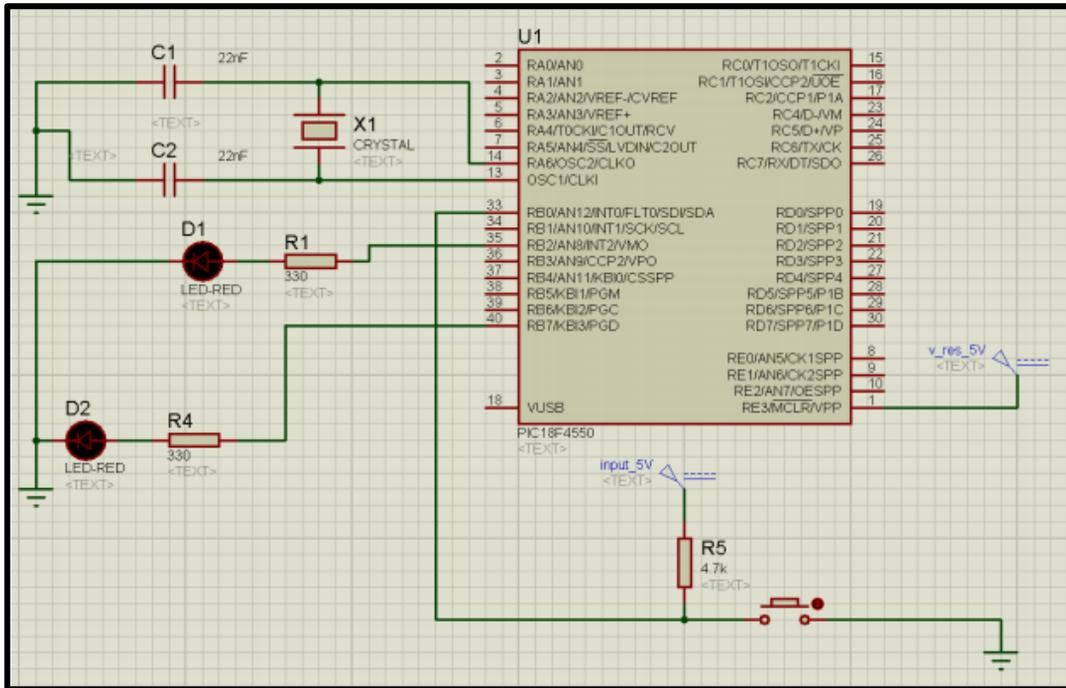

Figure 4.17: Test Setup for External Hardware Interrupt
- An example task in figure 4.17 below involving INTO which is a switch tied at pin RB0. Two LEDs connected at pin RB2 and RB7 are output devices.